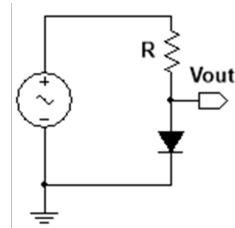

FIGURE 15. A diode divider.
- P4.4)** Show that the small signal gain of the circuit shown in Fig. 15 can be expressed as